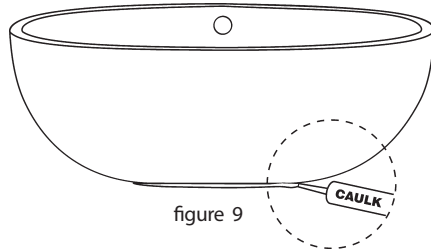

figure 9
- Run a bead of tub and tile caulk around the bottom edge of the bathtub where it meets the floor. Wipe off any excess caulk with a wet cloth (figure 9).